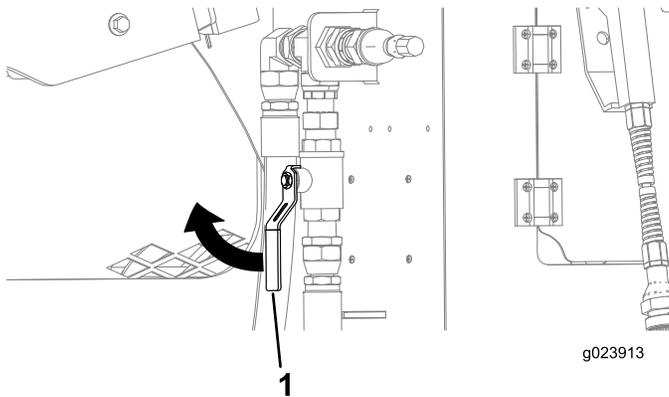

Figure 132
4. Ensure that the valve near the rear compartment is in the CLOSED position (Figure 132).